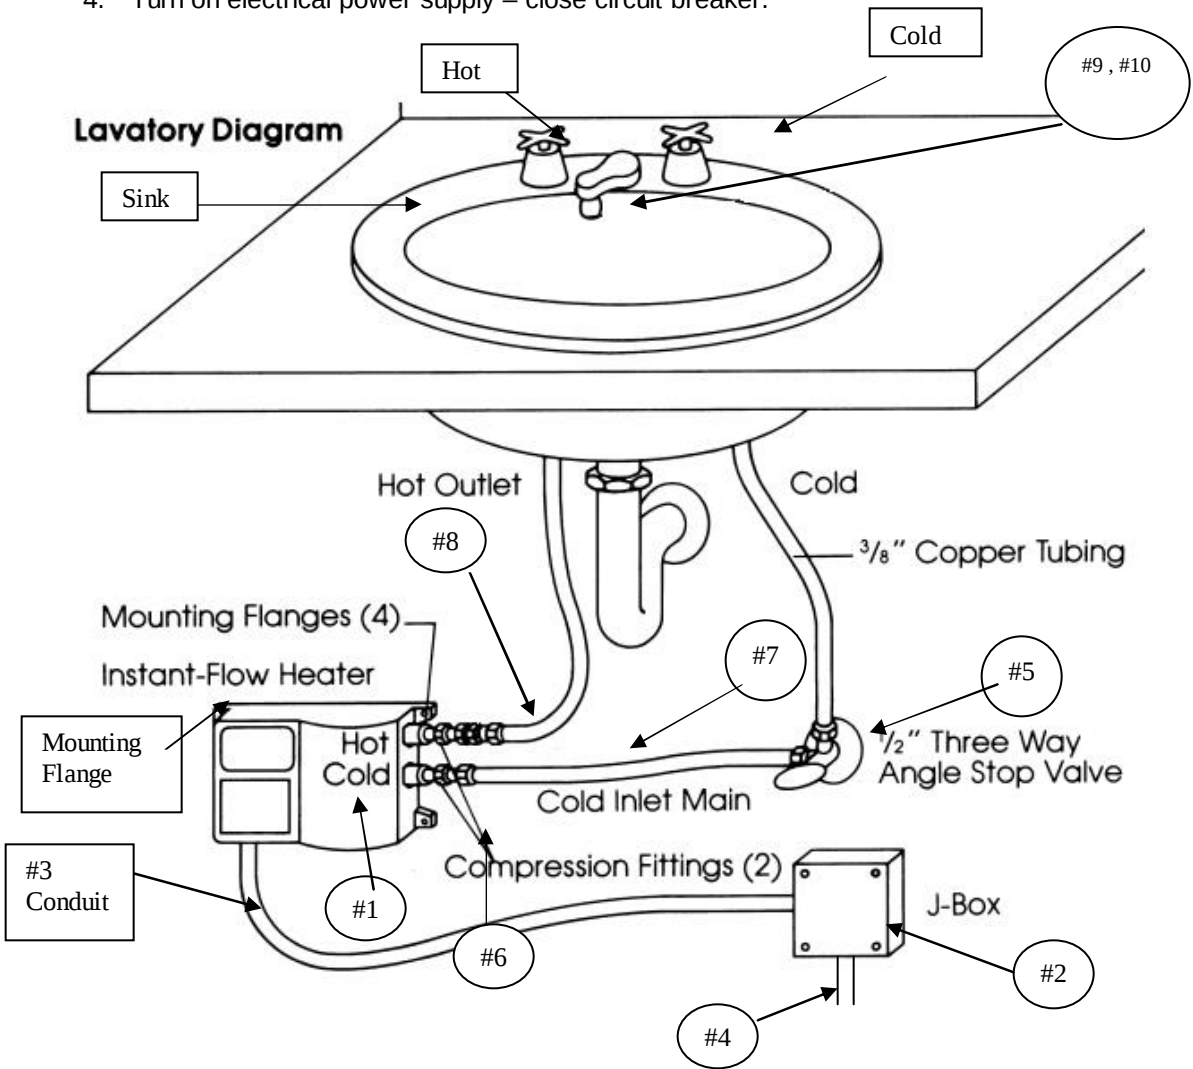

FIGURE 1 HEATER INSTALLATION
- Mount unit horizontally against the wall so the silver label reads correctly (See Fig. 1). Mount with four screws through the flanges located on each corner using molly anchors or fasteners.
- Connect plumbing. Use ¼" tapered national pipe thread at cold water inlet and hot water outlet (See Fig. 1). Use compression fittings supplied for ease of installation. Do not apply heat to these fittings.